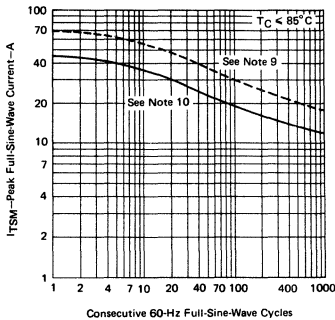

FIGURE 4
- NOTES: 8. For operation at current greater than 8 amps rms, see Figure 4.